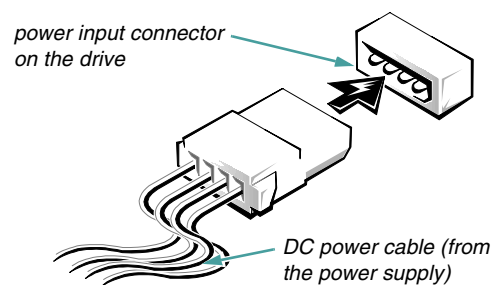

Figure 9-3. Power Connectors
Figure 9-3 shows the 4-pin power input connector, where you connect a direct current (DC) power cable from the system power supply or optional power-supply paralleling board.